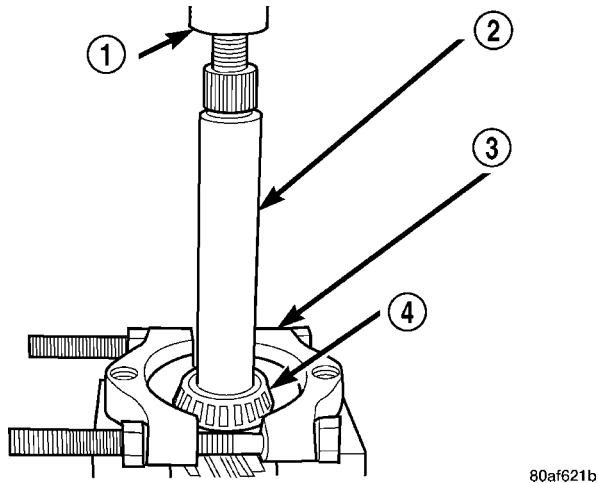

Fig. 62 Remove Transfer Shaft Bearing Cone
(46) Using tool P-334, press transfer shaft bearing cone off of shaft (Fig. 62).